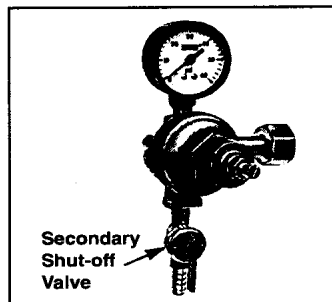

Figure 9
- Before doing that, make sure the secondary shut-off valve is closed, as shown in figure 9. To open the main CO2 cylinder valve, slowly turn the main valve counter-clockwise until fully open.